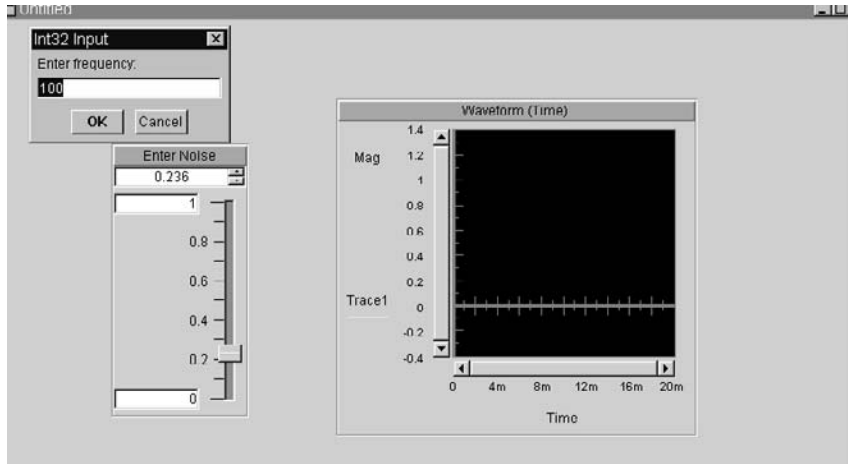

Figure 17.2. The “Enter Frequency” Pop-Up Panel
- Pop-Up Panel – A panel on a UserObject with Show (Panel) on Execute specified via the Properties dialog box. This method is usually used for custom dialog boxes that query for information, and then go away. This type of panel pops up anywhere you desire in a VEE Pro window. See Figure 17.2.